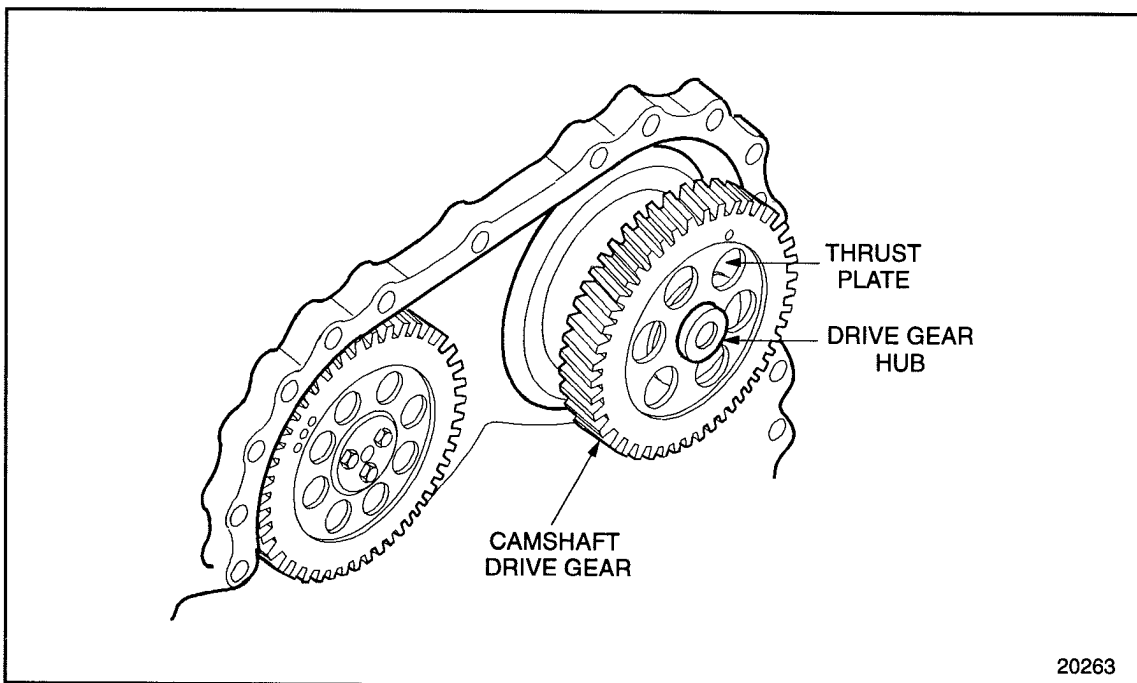

FIGURE 1-300 Camshaft Thrust Plate Assembly
7. Remove the camshaft thrust plate, hub, and camshaft drive gear as an assembly. See Figure 1-300.